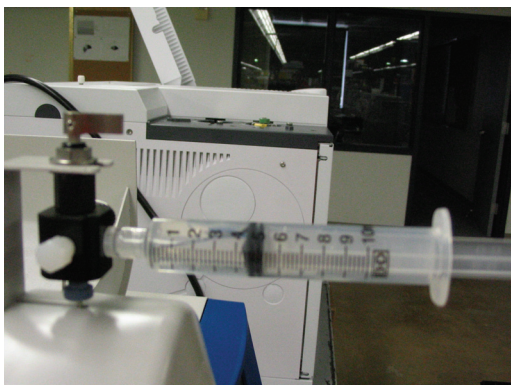

Figure 6.36. Removing the Methanol from the Sparge Vessel
7. From the 4-way valve above the sparge mount, use the syringe to remove the methanol from the sparge vessel (see Figure 6.36).